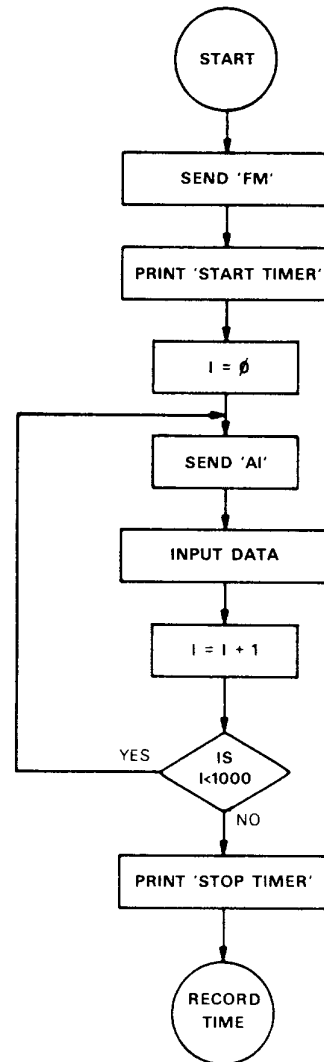

Figure 4-8. Flowchart for Programming 560A to Return 1000 Readings of Channel A Data
1. Referring to flowchart in Figure 4-8 or program in Figure 4-9, program